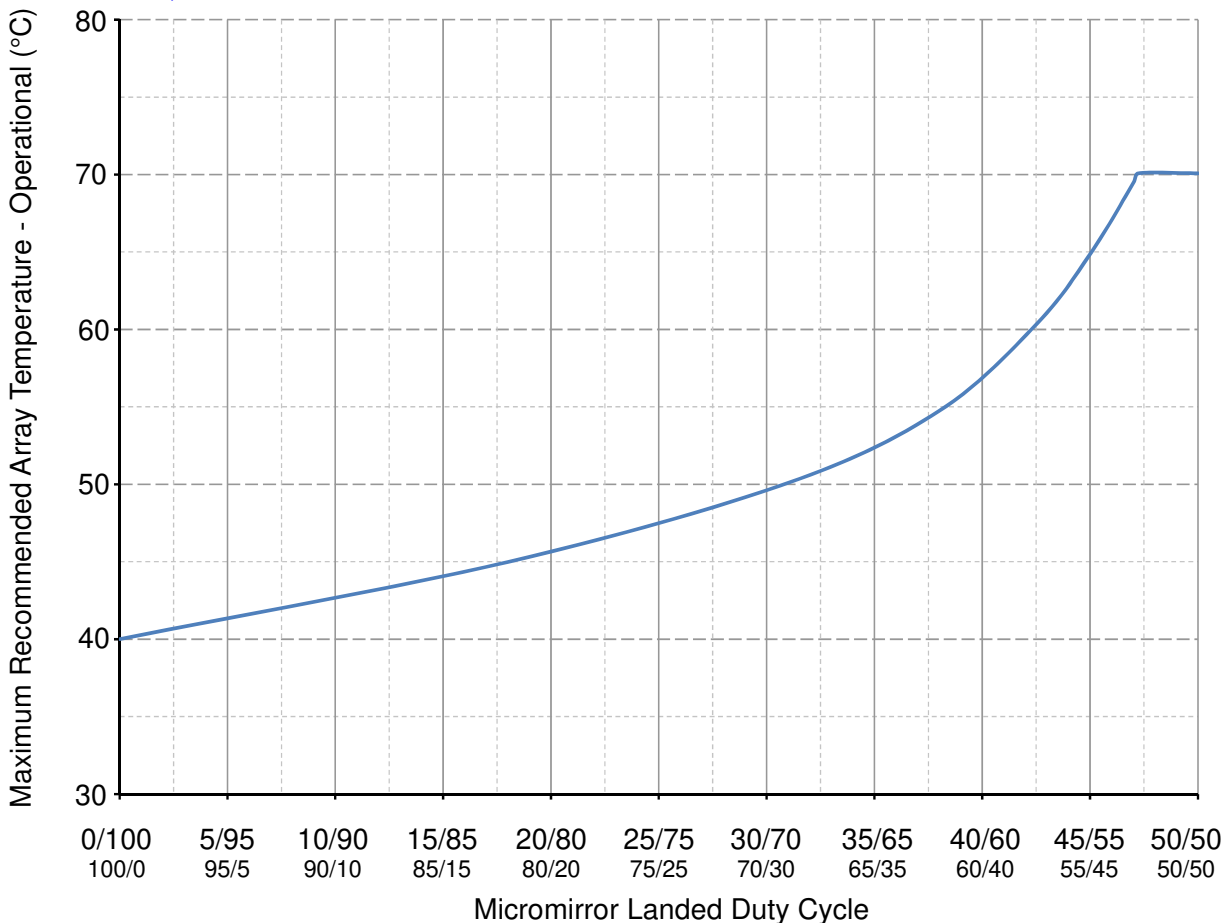

图 5-1. Maximum Recommended Array Temperature—Derating Curve
- (11) Long-term is defined as the usable life of the device.
- (12) Per 图 5-1, the maximum operational array temperature should be derated based on the micromirror landed duty cycle that the DMD experiences in the end application. See 节 6.8 for a definition of micromirror landed duty cycle.
- (13) Short-term is defined as cumulative time over the usable life of the device.